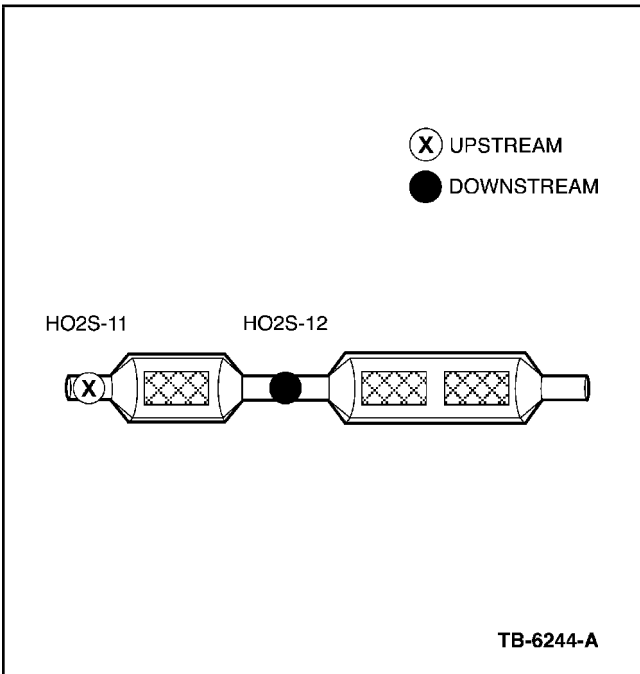

Figure 3 - Article 01-9-7
4. **View HO2S PID data carefully:** NGS PIDs for HO2S sensors that do not exist (with certain exhaust configurations) will show a value of "0" volts (refer to Figures 3 and 4).